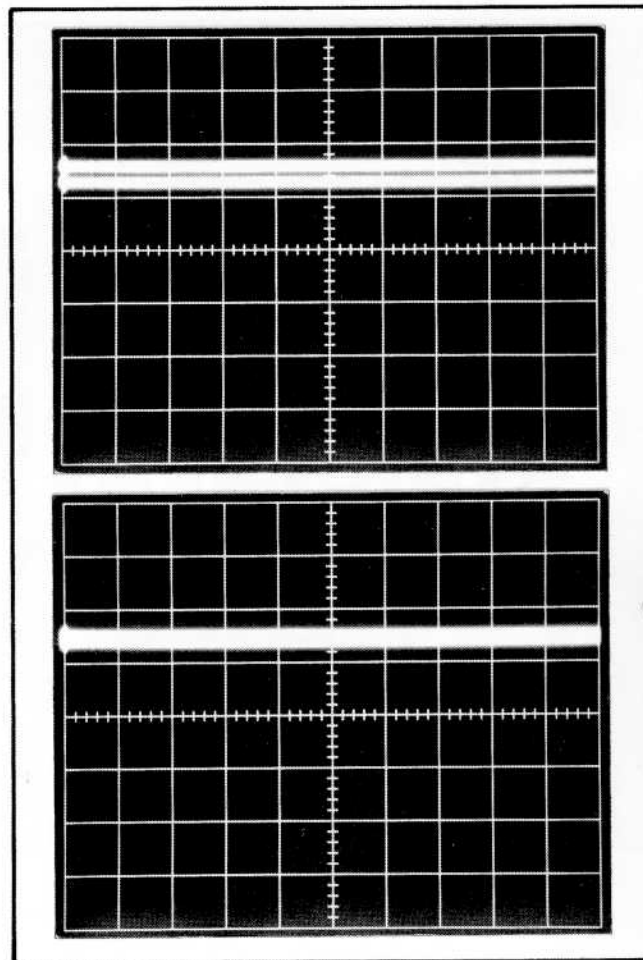

Fig. 5-9. (a) Display showing two noise bands when checking overall noise level, tangentially. (b) Two noise bands merged.
- c. Turn the Variable Attenuator fully clockwise (minimum resistance) and adjust the Time-Base LEVEL/SLOPE to obtain a free-running trace. Observe two noise bands displayed on the CRT (noise and free-running square-wave). See Fig. 5-9.
- d. Reduce the input to the Type 7A14 by slowly turning the Variable Attenuator counterclockwise until the two noise bands merge to the point where the darker band between the two noise bands just disappears. See Fig. 5-9.